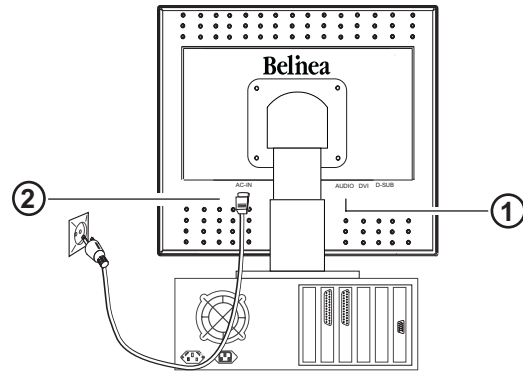

Figure 3. Connecting the monitor to the power source
If your computer is equipped with an audio output port, then connect one end of the sound cable to the audio input connector of the monitor (① in fig. 3) and the other end to the Line-Out connector of the computer.
Connect the separate power cable (② in fig. 3) to the monitor and a grounded outlet.